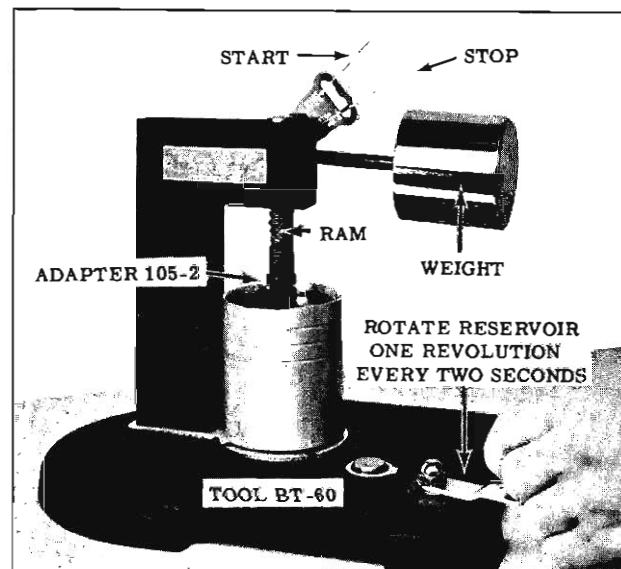

Fig. 3-18 Testing Lifter
12. Raise arm, then start test by resting ram on steel ball. Rotate reservoir one revolution every two seconds and time the indicator from the start to the stop line. (Fig. 3-18) Allowable tolerance for leak-down rate is 12 to 90 seconds (for used lifters) and 20 to 90 seconds (for new lifters).